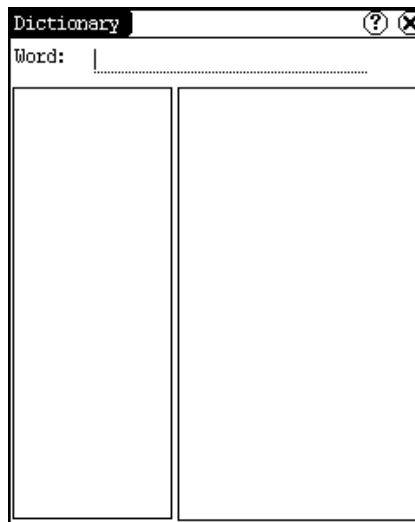

Fig 4-9
- 1) In the pop-up menu of 'Tools', select 'Dictionary' to open the Dictionary interface. (See Fig 4-9)